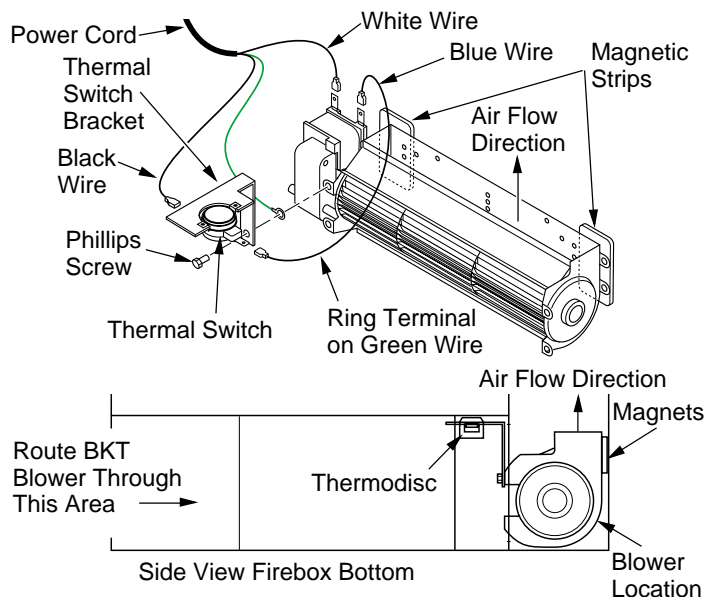

Figure 28 - Blower Model BKT
1. Place the green ground wire with ring terminal between the bottom hole on the thermal switch bracket and the top ear hole on the blower assembly. Insert the phillips screw into all three pieces and tighten securely (see Figure 28).
- Place the blower against the lower rear wall of the firebox outer wrapper with the exhaust port directed upward and the thermodisc positioned up near the fireplace bottom. The thermodisc must be oriented near the fireplace bottom as shown in Figure 28, page 17, in order to sense temperature and properly operate. The blower will be held in position against the back wall by the magnets incorporated onto the blower housing (see Figure 28, page 17).